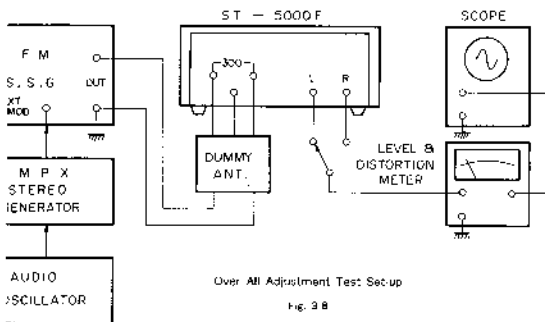

Fig. 3-8
On the equipment as shown in Fig. 3-8, an FM Signal Generator (frequency to 98 MHz, 100% modulation, Output level 600 mV, IFT 100, nearly modulated only) slightly for aural distortion.
(a) Work the equipment connected as shown in Fig. 3-8 with the FM signal generator as follows:
- (1) Connect equipment as shown in Fig. 3-8. Set the signal generator as follows: 98 MHz, RF output 60 dB μ . Modulation: Main channel (L or R 400 Hz) 45%, 33.75 kHz deviation. Sub channel (SR kHz) 45%, 33.75 kHz deviation. Pilot Signal (19 kHz) 10%, 7.5 kHz deviation.